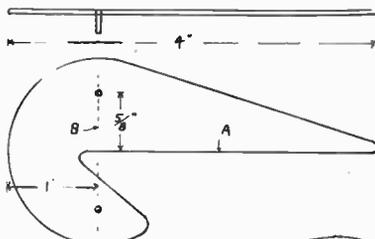

Fig. 1—A tool for finding the centre of circular articles
With a metal fretsaw, cut round the edge of the tool as shown in Fig. 1, making the cut slightly outside the marks. Finish off with a file, and be very careful to get the straight edge (A) cut exactly on the line.